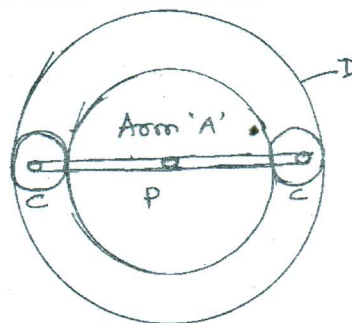

Fig.Q7(b)
- b. The Fig.Q7(b) shows an epicyclic gear train where the arm 'A', the driver and annular gear 'D' is the follower. The wheel 'D' has 112 teeth and B has 48 teeth, 'B' runs freely on pin 'P' and 'D' is separately driven. The arm 'A' runs at 100 rpm and wheel 'D' at 50 rpm in same direction. Find the speed of wheel 'B' and 'C'.